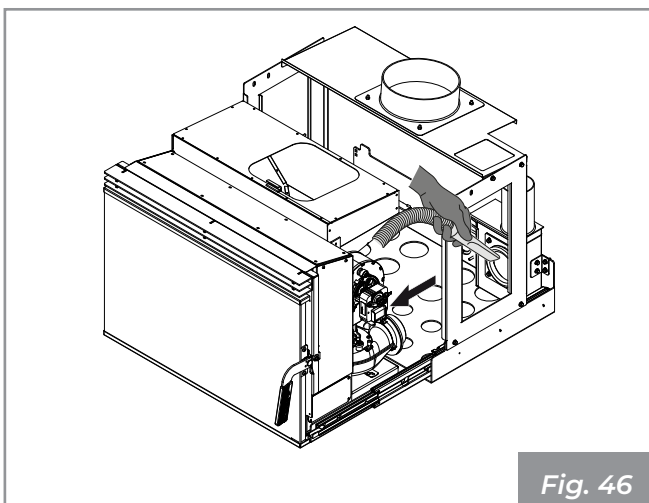

Fig. 46
- Use an ash vacuum cleaner to remove debris inside the T-pipe.( **Fig. 46** )